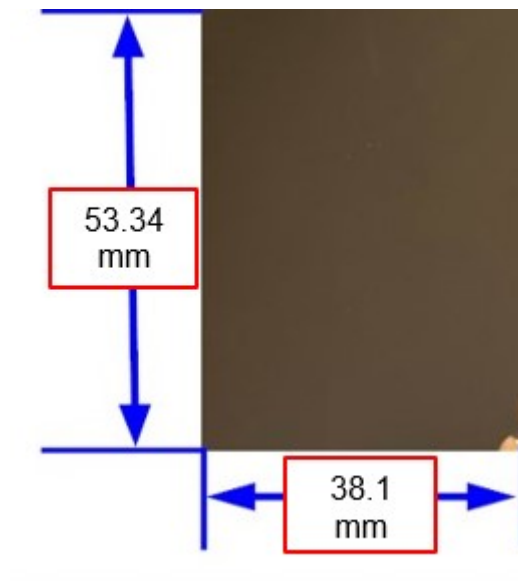

Fig. 9
10. Clean the area and install the 53.34 mm x 38.1 mm (2.1" x 1.5") foam patch between the rear fuel line connector and the front inner left rail. (Fig. 9)